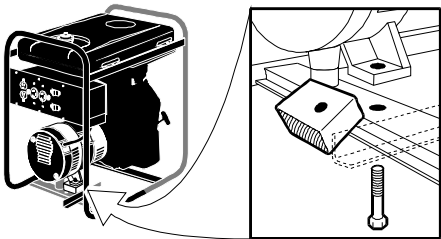

Figure 1
- **(if equipped)** Remove shipping block from under the gen head by unscrewing the bolt and remove the wood block. It is very important that this is removed before starting your generator. See Figure 1.